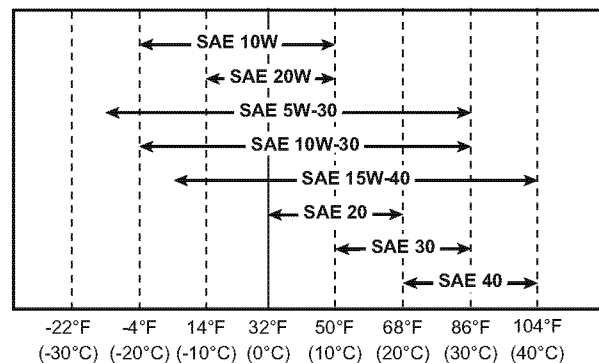

Figure 4-25
- Select the oil viscosity based on the ambient temperature where the engine is being operated. See the SAE service grade viscosity chart (Figure 4-25).
Select the appropriate engine oil viscosity based on the ambient temperature and use the SAE service grade viscosity chart in Figure 4-25.